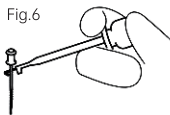

Fig.6
7.2.1 Grip the file inserted in the root canal with the file clip. Grip the upper part (near the handle) of the file's metallic part. (Fig.6)